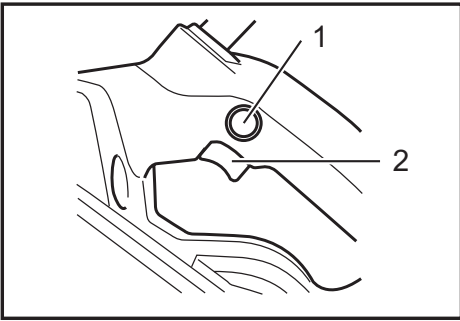

Fig.1
- Fig.1: 1. Lock button 2. Switch trigger